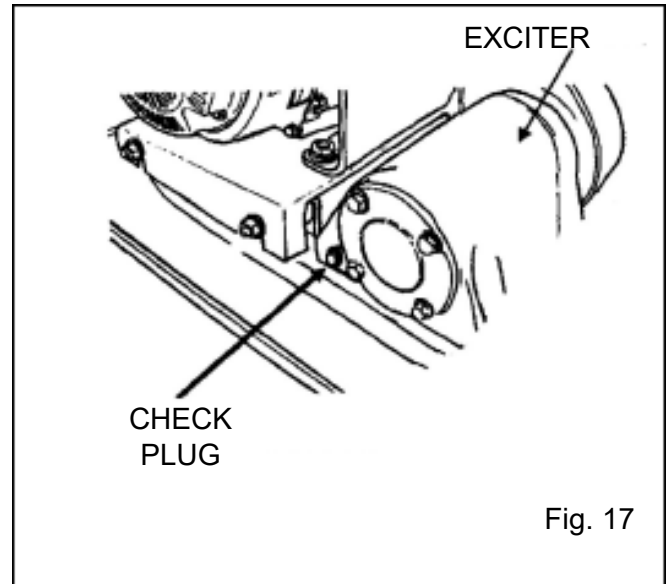

Fig. 17
2. 2. Check the exciter oil level by removing the check plug as shown in Figure 17. The oil level should reach the edge of the oil filler hole. Add hydraulic oil if necessary.
4. 4. When changing the exciter oil, remove the check plug (Figure 17) and tilt the compactor to drain the oil. Note that oil drains more easily when hot.